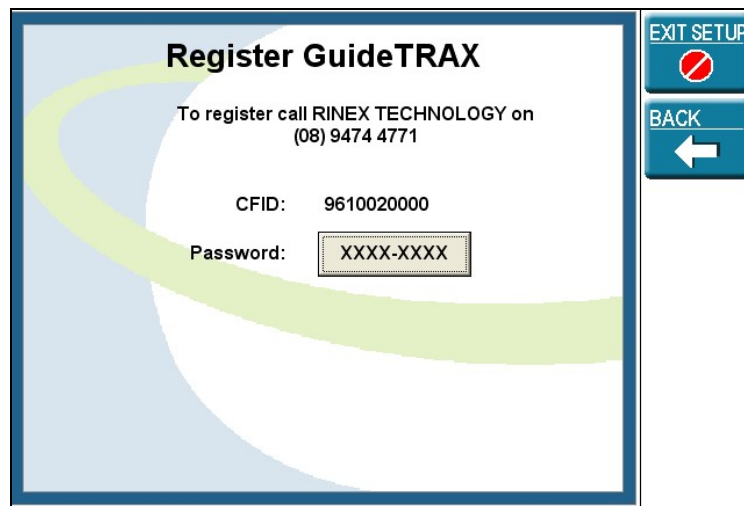

Figure 3-1: Register GuideTRAX Window
- 3) Touch **ABOUT GuideTRAX** and then **REGISTER** to display the registration screen. See Figure 3-1.